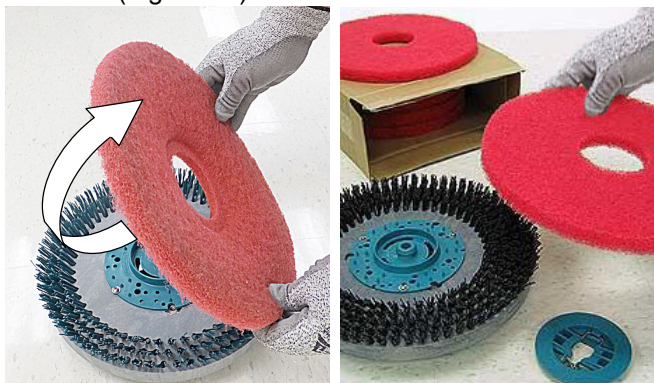

FIG. 96
5. Disk scrub head - Turn pad over or replace when worn (Figure 96).